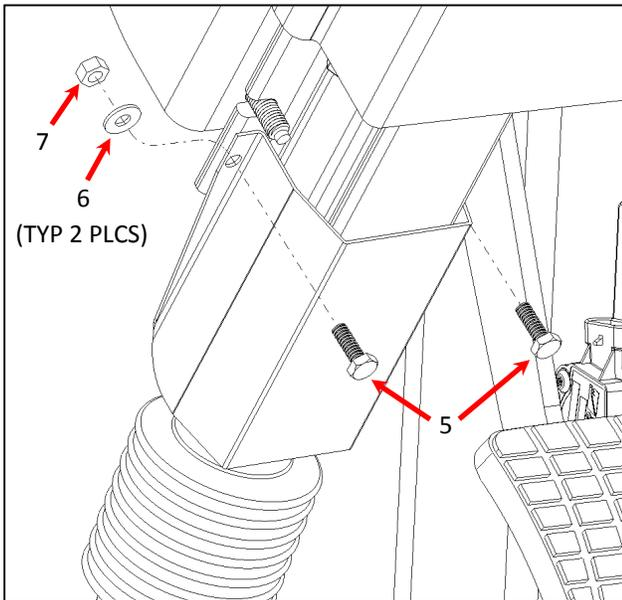

Fig. 6
10. Install lower steering column cover with new fasteners. (Fig. 6)